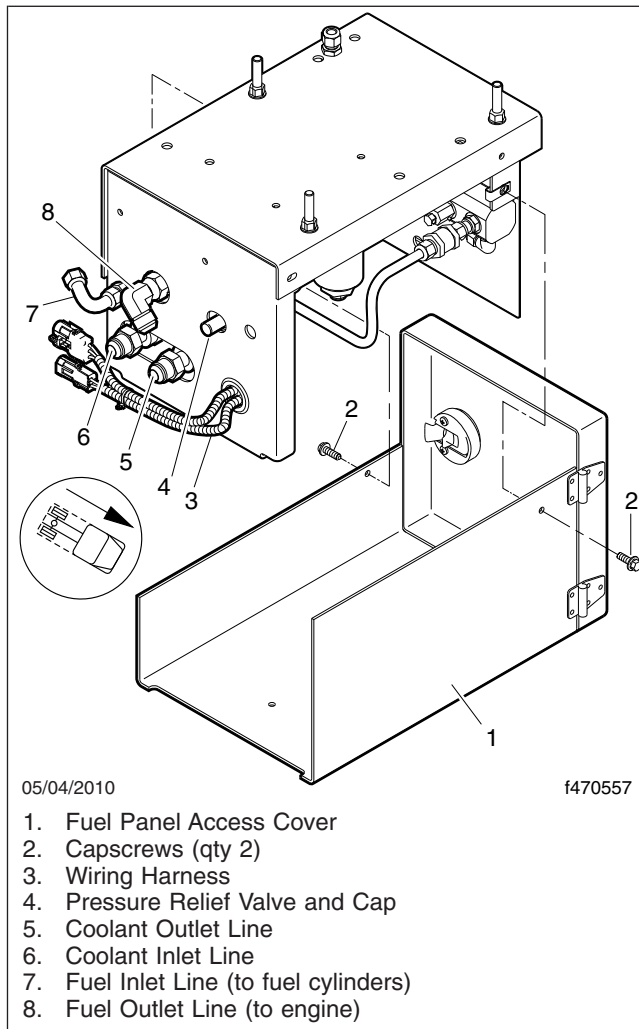

Fig. 11.16, CNG Fuel Panel Assembly
- 2.3 Remove the two capscrews that secure the access cover to the fuel panel, then remove the access cover. See **Fig. 11.16**. Save the capscrews for installation.